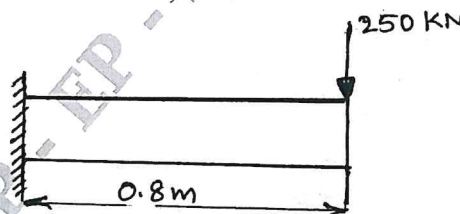

Fig.Q.5(b)
- b. A cantilever beam subjected to point load of 250 kN as shown in Fig.Q.5(b). Determine the deflection at free end. Take  $E = 200 \text{ GPa}$ ,  $I = 4 \times 10^6 \text{ mm}^4$ . (10 Marks)